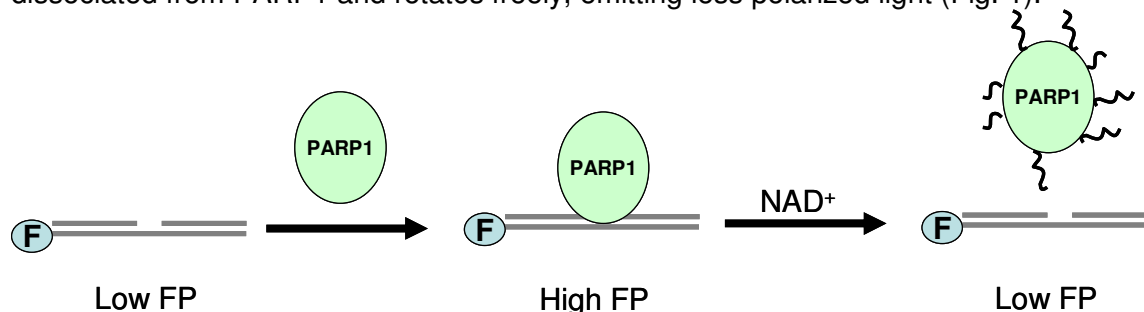

Figure 1. PARPtrap™ Assay Kit schematic
DESCRIPTION: The *PARPtrap™ Assay Kit* is designed to measure PARP1/DNA complex formation in a high throughput screening assay using fluorescence polarization (FP). PARP1 is known to bind damaged DNA through its N-terminal zinc finger domain. After PARP1 ribosylates itself (autoribosylation), it dissociates from DNA due to the accumulated negative charge of the ribosyl polymer. Trapped PARP-DNA complexes have been shown to be cytotoxic to cancer cells. The *PARPtrap™ Assay Kit* comes in a convenient 96-well format, with purified PARP1 enzyme, fluorescent labeled nicked DNA, and PARPtrap™ assay buffer for 100 enzyme reactions. The key to the *PARPtrap™ Assay Kit* is the fluorescent labeled nicked DNA. Without the PAR reaction, PARP1 binds to the fluorescent labeled nicked DNA, resulting in the emission of highly polarized light. However, after autoribosylation of PARP1, the nicked DNA is dissociated from PARP1 and rotates freely, emitting less polarized light (Fig. 1).